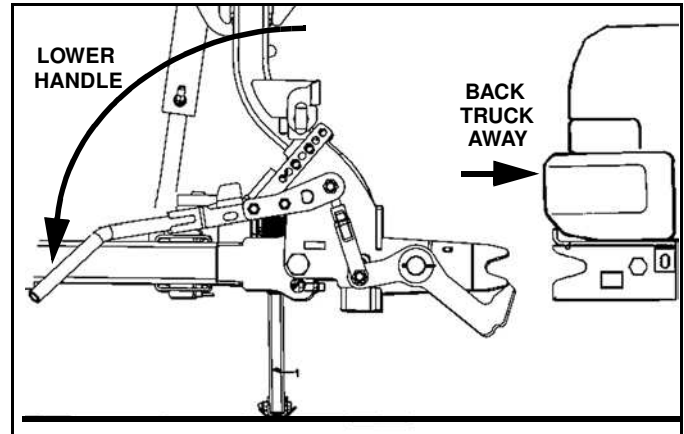

Figure 1-46
4. Pull safety pin out of engagement handle and pull handle away from truck to disengage. (See Figure 1-46).